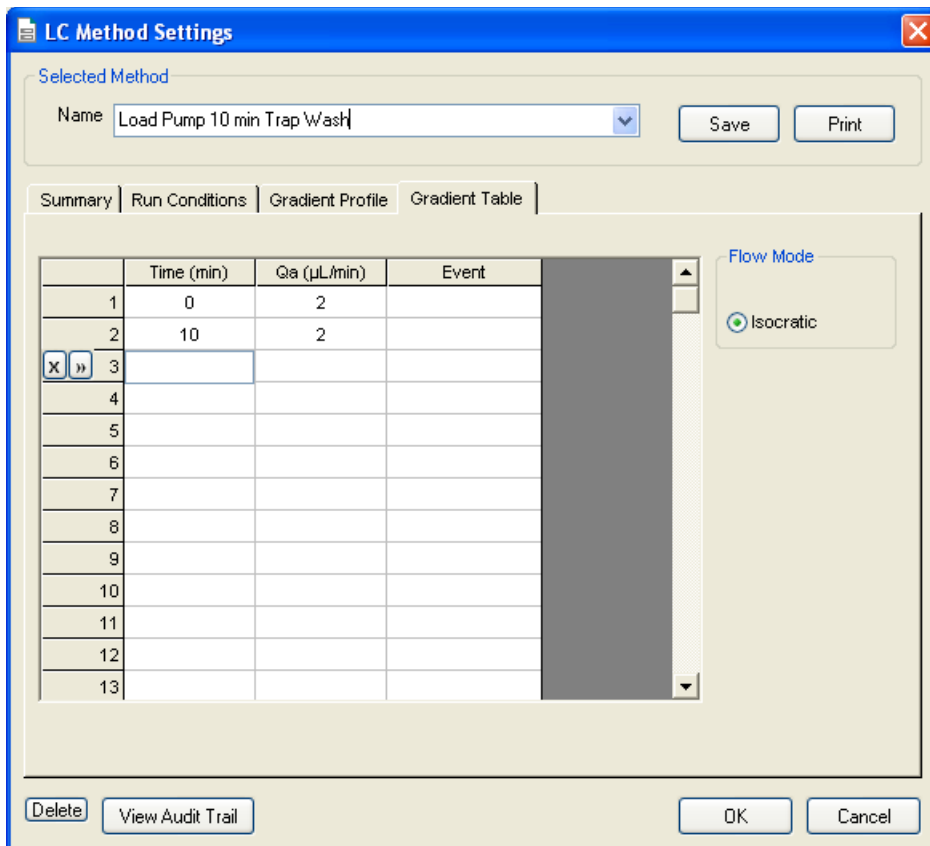

Figure 1-13 LC Method Settings dialog—Gradient Table tab
- On the **Gradient Table** tab, revise the method for the loading pump (the loading pump will be the pump with the microflow module), as shown in Figure 1-13.